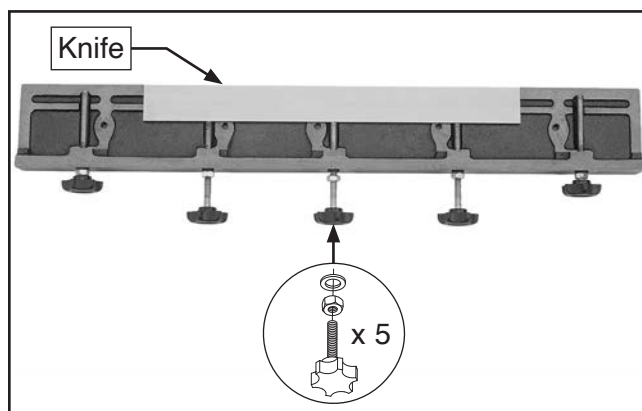

Figure 19. Knife placed on slide bar.
5. Install (5) $\frac{1}{4}$ "-20 x $2\frac{3}{4}$ " knife adjustment knobs on slide bar, each with (1) O-ring and (1) $\frac{1}{4}$ "-20 hex nut. Back adjustment knobs out enough so knife can be positioned in middle of slide bar even with its front edge, as shown in **Figure 19**.